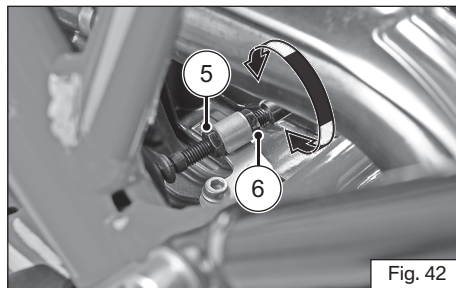

Fig. 42
- ♦ Turn the adjuster in (6) 'in' or 'out' until the specified play is obtained and then tighten the lock nut and check the adjustment once again (ref. Fig. 42).